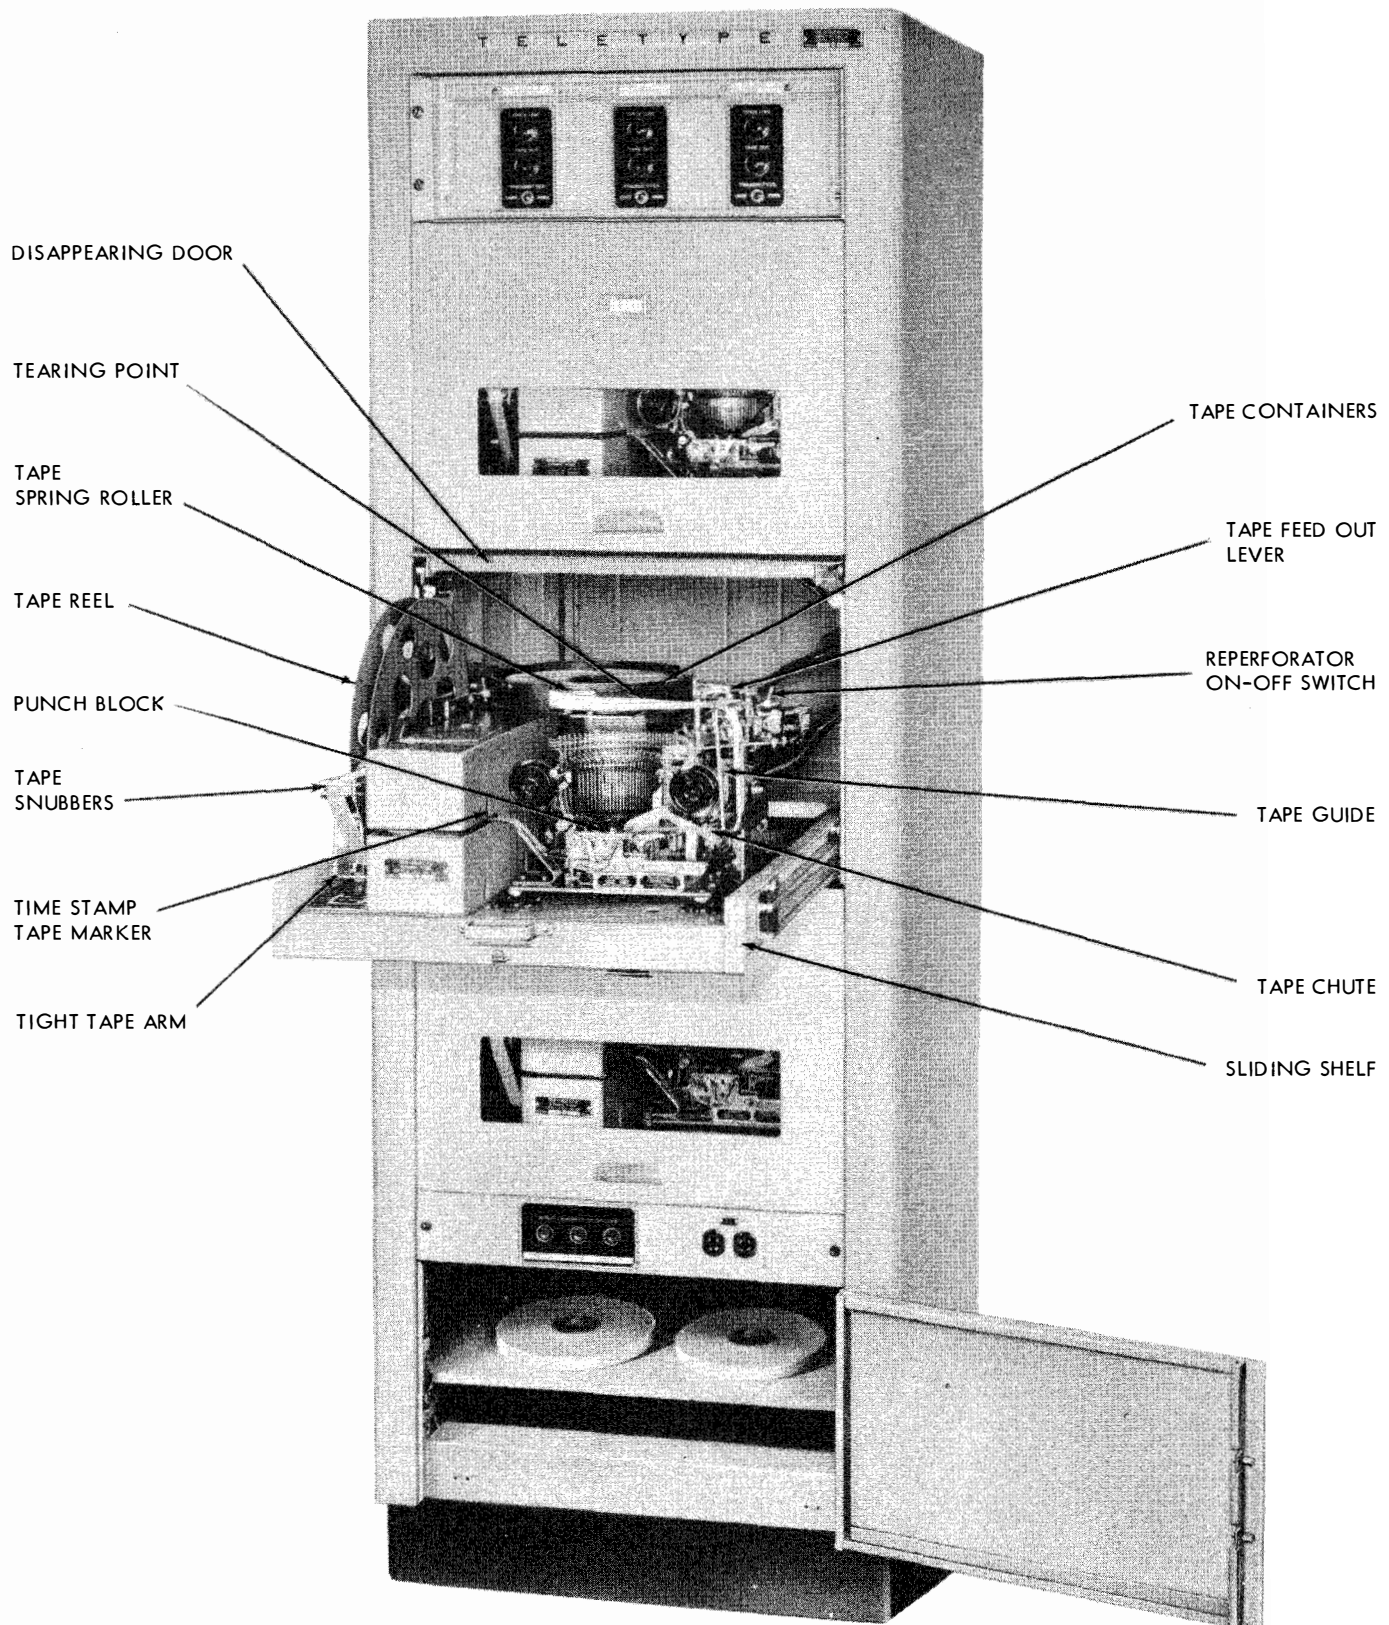

Figure 4-7. Installing Monitor Reperforator Tape
(3) **INSTALLING MONITOR TAPE.**—The tape should be installed in the monitor reperforators before the machine is operated (see figure 4-7).
(1) Operate the TRANSMITTER LOCKED-NORMAL switch on the front panel that corresponds to the circuit to be held in the LOCKED position. This stops all transmission from the transmitting set on that line until the switch is restored to the NORMAL position. The message in process at the time of operating the switch is completed before the locking of the circuit takes place.
(2) Pull out the sliding shelf and wait until the reperforator stops operating. It will do so as soon as the message being sent has been completed.
(3) Tear the tape on the old roll near the right-hand end of the tape chute that feeds the tape into the reperforator.
(4) Remove the piece of tape remaining in the reperforator by operating the tape feed-out lever next to the range scale on the reperforator and holding the lever until all the tape has cleared the reperforator.
(5) Replace the used tape roll, but do not discard as it will be needed for the reeling machine reel. The new tape roll should unwind in a counterclockwise direction.
(6) Pass the tape on the outside of the tape tension spring roller, over the top of the tape guide, then down under the bottom of the tape guide, through the tape chute and punch block, through the feed roll, through the left hand tape chute, through the time stamp, and to the tape reeling machine (see figure 4-7).
(7) Whenever the tape roll is replaced, the tape reeling machine should be emptied and the new tape started.
(8) Clean off any lint and dust that has accumulated around the tape chutes, punch block, and feed roll.
(9) Let the tape reeling machine take up all the old tape.
(10) When all the old tape is reeled, lift the tape reel out of the reeling machine and place a piece of tape across the free end so that reeled tape will not unwind.
(11) Pull out the locking plate on the side of the reel that does not have the gear. Pull the two sections of the reel apart, being careful not to damage the reeled tape. The tape will stay with one section.
(12) Remove the reeled tape, with its cardboard insert, from the section of the reel. Label the reeled tape to prevent loss of identity.
(13) Clean the cores on both halves of the reel if necessary, making sure that the springs do not have pieces of tape, lint, or other particles underneath.
(14) Insert the used tape roll that was removed from the reperforator on the core of the section of the reel that has the gear. The used tape roll should still have some tape on it so that the new tape may be attached to it easily. The used tape roll should be inserted so that the tape winds up in a clockwise direction.
(15) Put the two halves of the reel together and place the reel on the forward notches of the reeling machine. Leave about 10 inches of tape unwound.
(16) Take the new tape passing through the time stamp and thread it through the tight tape arm and the tape snubbers. (If more tape is needed, operate the tape feed-out lever on the reperforator.) Fasten the end coming out of the snubbers to the end of the used roll on the reel.